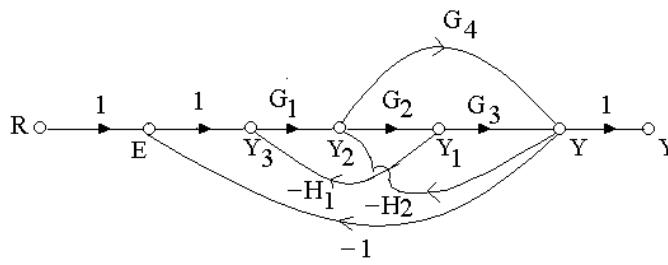

Fig.1
Q.19 For the system whose signal flow graph is shown by Fig.1, find $\frac{Y(s)}{R(s)}$ (8)